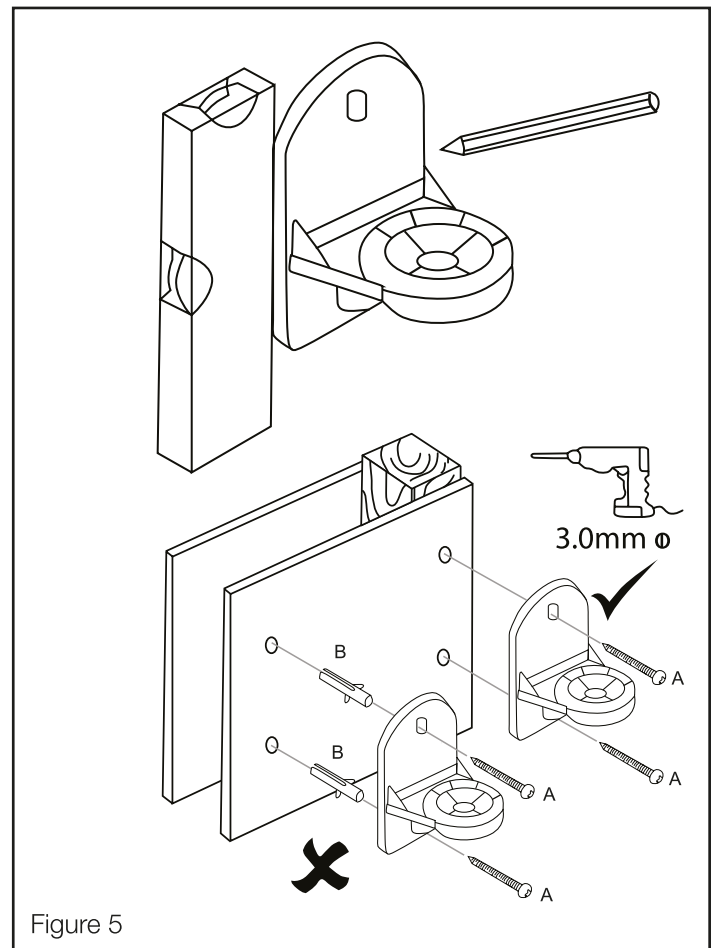

Figure 5
2. Mark 2 fixing holes over stud centres using the speaker wall plate as a guide. Ensure wall plate is straight and level (see Figure 5).
4. Attach the wall plate using the 25mm woodscrews (A). Do not over tighten.